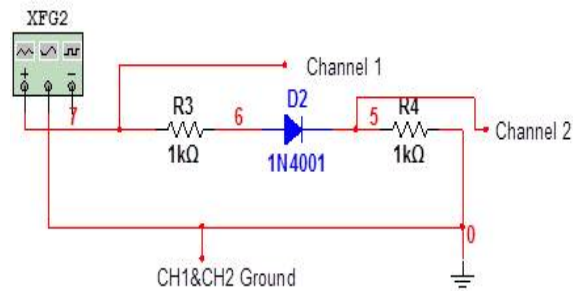

Figure 1: This is how we set up the circuit for experiment 1
- Connect the circuit as shown in the figure 1.